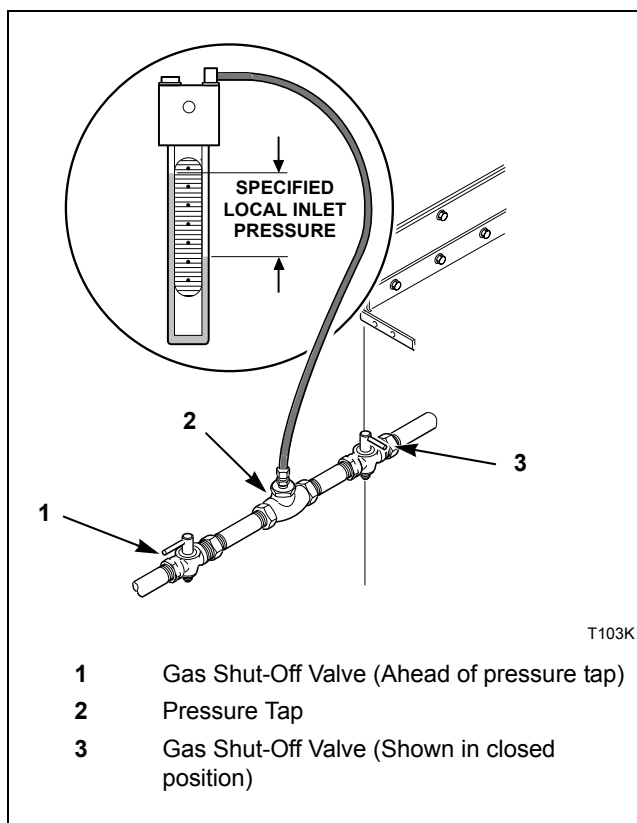

Figure 11
- a. Disconnect electrical power from tumbler. Close gas shut-off valve to tumbler. Refer to *Figure 11*.
1. Disconnect electrical power from tumbler. Close gas shut-off valve to tumbler. Refer to *Figure 11*.